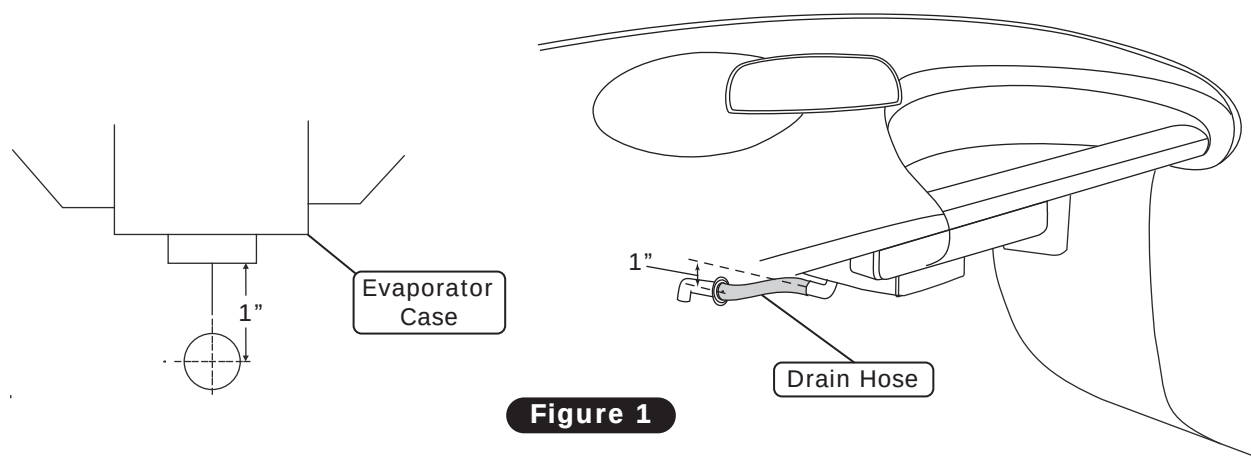

Figure 1
2. In-line with the drain, lightly make a mark on the firewall measuring 1" down. Drill a 5/8" hole through the firewall (See Figure 1, below).
3. Install the drain hose onto the bottom of the evaporator module, and route it through the firewall. Install a 1/2" 90° drain elbow onto the drain hose (See Figure 1, below).
1. Locate the #8 compressor A/C hose. Lubricate (2) #8 O-rings (See Lubricating O-rings, Page 9), and connect the 90° female fitting to the #8 discharge port on the compressor. Then route the straight female fitting with 134a service port to the #8 condenser hardline coming through the core support (See Figure 1, Pages 17 and 18). Tighten each fitting connection.